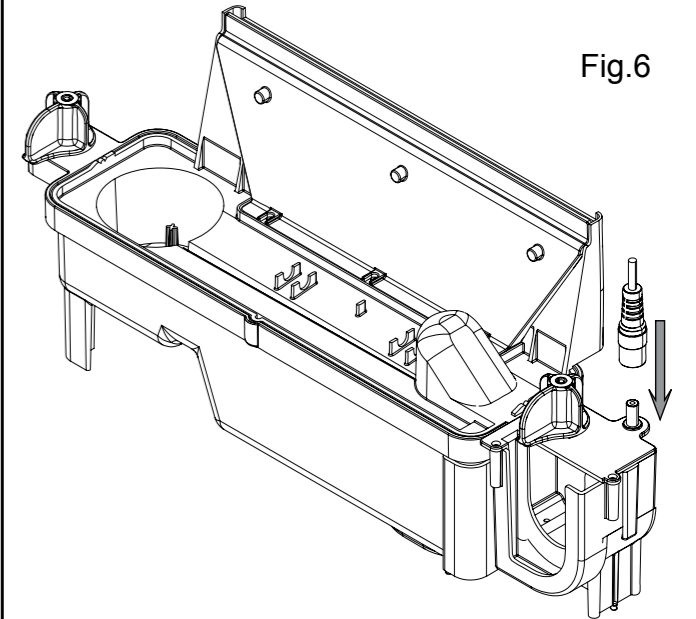

Fig.6
4. Disconnect the electrical connector, located on the right side of the sump. (See Fig.6) .
Low voltage connector not connected properly. (See Fig.6)	Check that the connector is inserted correctly. (See Fig.6)